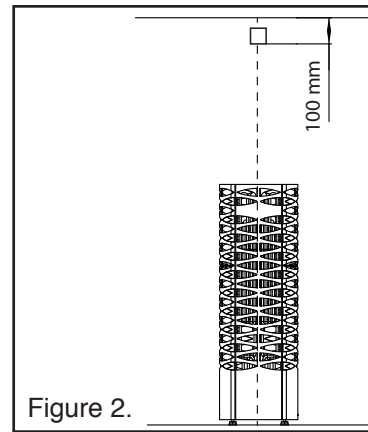

Figure 2.
- Install temperature sensor to the wall, above the sauna heater so it is located 100mm below the ceiling. (see Fig. 2)
- Install the sensor in the area lined in Figure 2.